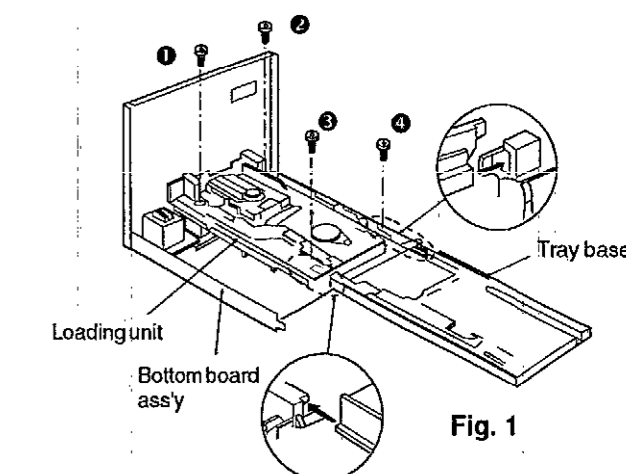

Fig. 1
1. Install the gear lever on the loading base and then slide the gear lever in the direction of arrow ①. (See Fig. 1.)
2. Install the reduction gear and secure it with a screw. (See Fig. 1.)
3. Install the gear lever spring to the boss (A). (See Fig. 1.)
1. Install the loading unit on the bottom board ass'y and secure it with 4 screws (① - ④). (See fig. 1)
2. Install the tray base on the loading unit. (See fig. 1)